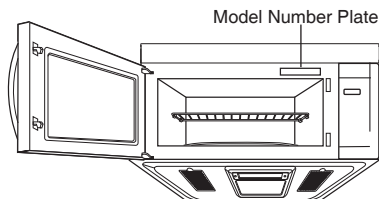
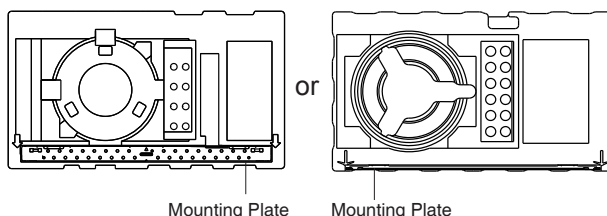

Figure 1
Figure 2
- Read the entire manual before you begin. The model number label is located on the oven front. See Figure 1. The mounting plate is located on the upper packing. See Figure 2.